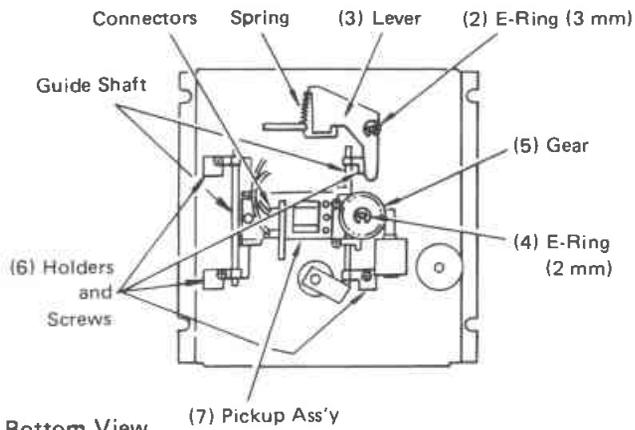

Fig. 5
- 2) Remove the E-ring ($\phi = 3$ mm) which fixes the rotary shaft of the lever, and remove the spring. (Fig. 5)